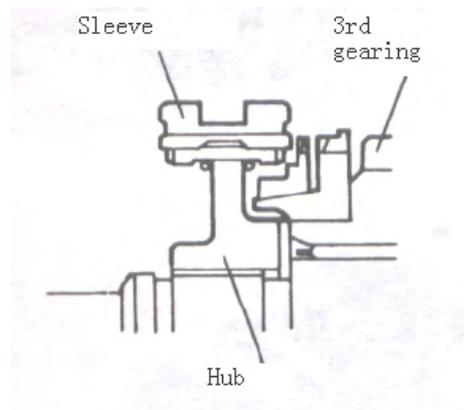
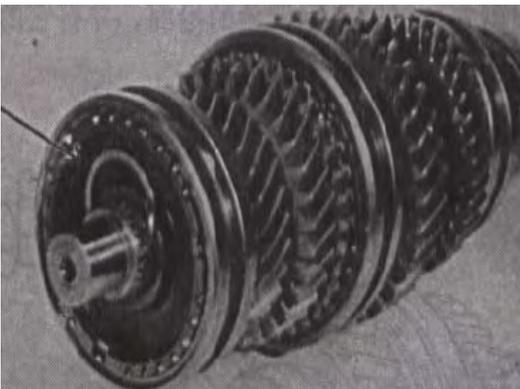

Fig 10-68
Fig 10-69
(10) Install 3rd gear bearing, 3rd gear, high speed synchronizer ring and hub/sleeve. When installing hub, direct the side with larger outer diameter boss to 3rd gear side. Then fit circlip into groove in main shaft. (FIG.10-68, FIG.10-69)